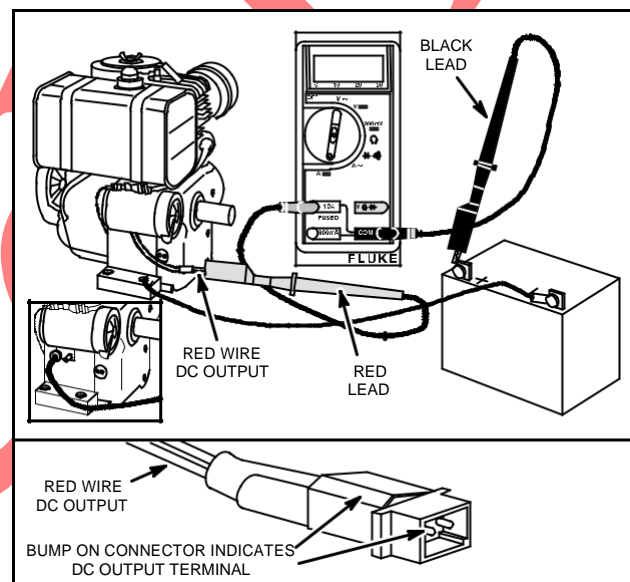

Fig. 766 – TESTING ALTERNATOR OUTPUT
4. Attach RED test lead clip to DC output pin in connector, Fig. 766.